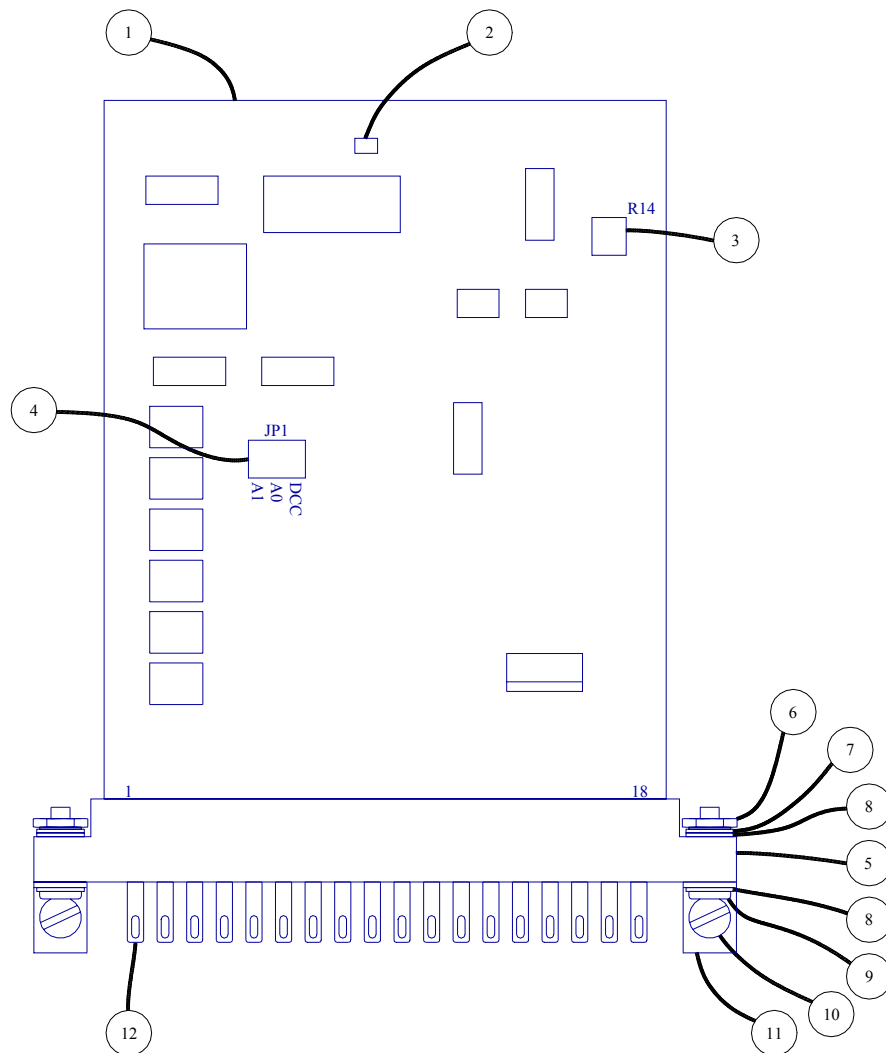

Figure 4-1 GCC Assembly and Parts
First, consider the type of action you want. The GCC provides four actions to protect your crossings. Two push-on jumper plugs are provided to make the action selection. These are the A0 and A1 jumpers identified as item 4 in Figure 4-1 GCC Assembly and Parts. These actions and the jumper positions are shown in Figure 3-3 Crossing Action Selection.
Figure 4-1 below shows how your GCC and related items will look when ready for installation. For your reference, the major items are identified individually. The action plug and its jumpers (item 4), the board activity indicators LED (item 2), and the bell volume control (item 3), are the only board mounted parts of interest to you.
If you are using the GCC 5-volt output (pin 16) to power your LED's, the GCC has to be turned on. Is the GCC activity LED, item 2 in Figure 4-1 GCC Assembly and Parts blinking? If not, then the GCC is not powered up, or there is a short to between pin 16 and one of the GCC common pins (13, A, M, P or V). Disconnect the power, unplug the GCC and test this with an ohmmeter.